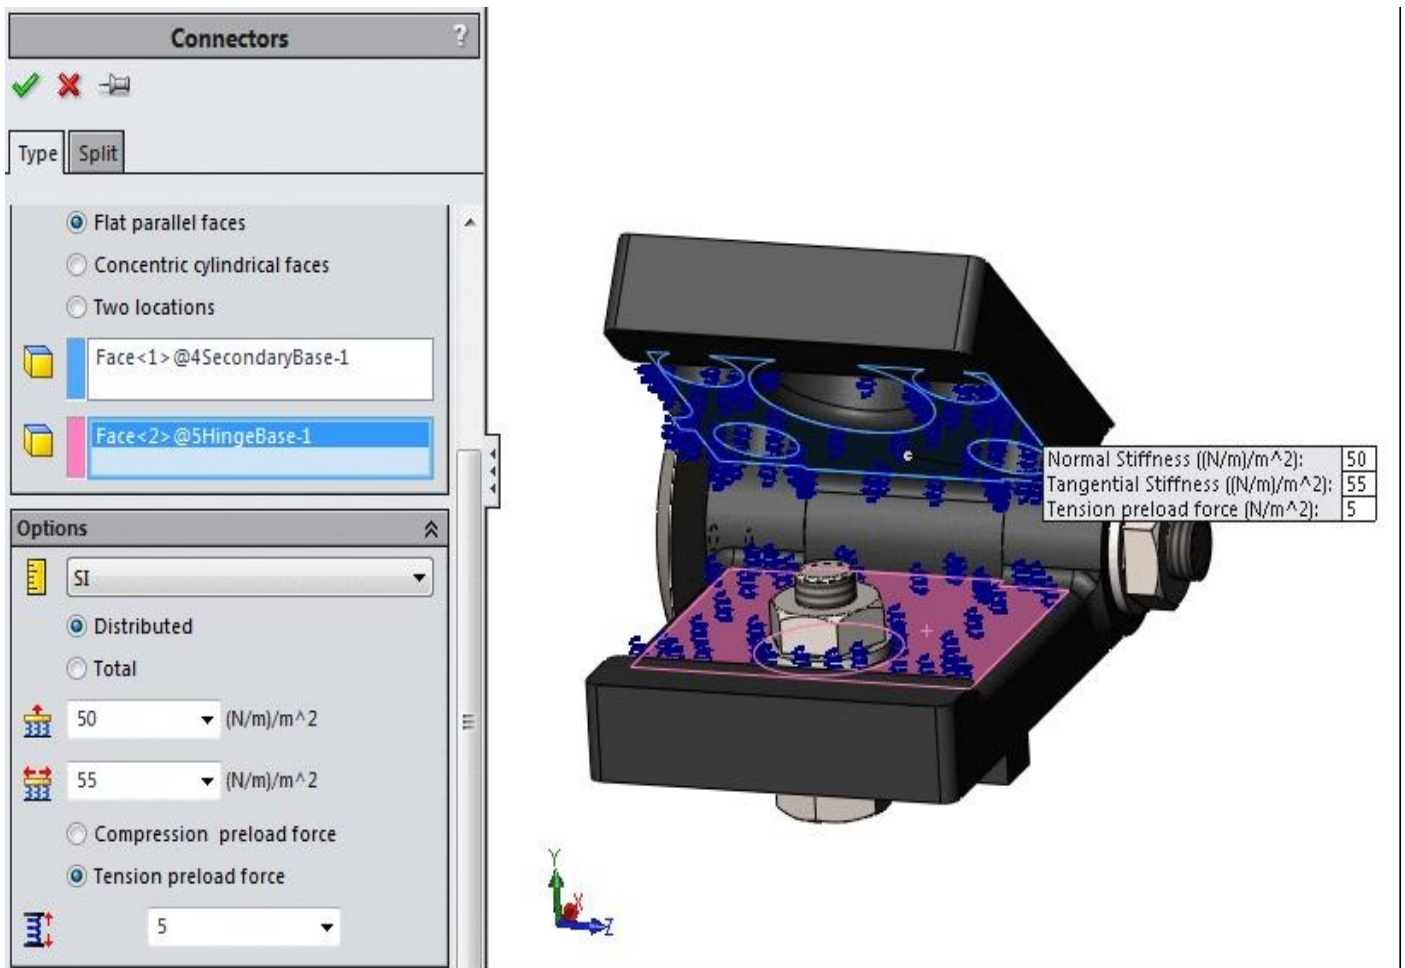

Figure-71. Preview of spring connector
- Specify the parameters related to spring in the **Options** rollout. Preview of the spring will be displayed; refer to Figure-71.